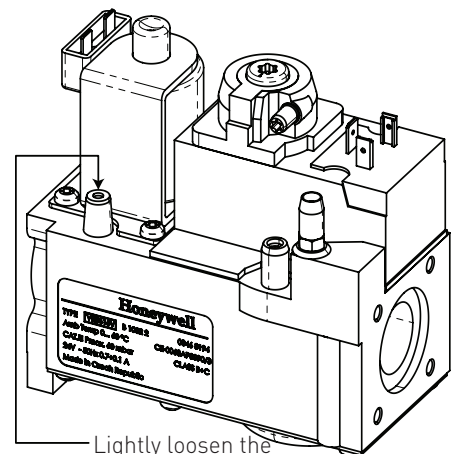

Figure 14.
Install a sediment trap/drip leg and union located outside the heater panels in accordance with *European Standard Codes of Practice* requirements. Do not use a restrictive gas cock. The sediment trap/drip leg shall be either a tee fitting with a capped nipple in the bottom outlet which can be removed for cleaning, as illustrated in Figure 14, or an other device recognized as an effective sediment trap/drip leg. All gas piping should be tested after installation in accordance with local codes.
2. Loosen the small screw inside the pressure tap as shown in Figure 14.
This appliance is equipped with an unconventional gas control valve that is factory set with a manifold pressure of 1.1 ± 0.5 mbar. Installation or service must be performed by a qualified installer, service agency, or the gas supplier. If this control valve is replaced, it must be replaced with an identical gas control. The combination gas valve incorporates dual shut-off valves and a negative-pressure regulator. For proper operation, the regulated pressure at the outlet manifold of the valve must be 1.1 ± 0.5 mbar below the reference pressure at the blower mixer inlet, and the gas valve 'VENT' tap must be connected to the end cap air orifice as shown in Figure 14. **DO NOT attempt to adjust the gas input by adjusting the regulator setting. The correct gas regulator setting is required to maintain proper combustion and must NOT be altered.**